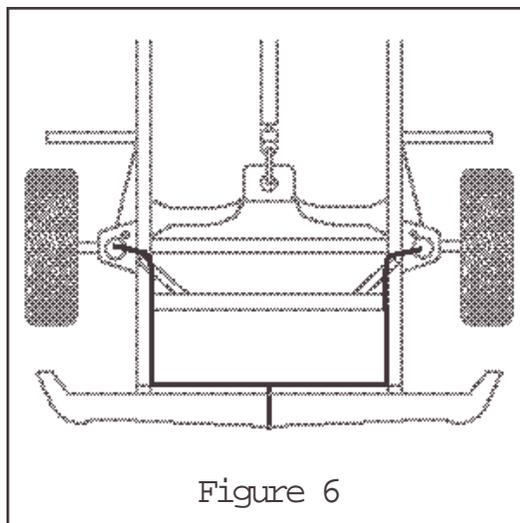

Figure 6
- H. Push the remaining air line over the last fitting on tee. Route along frame to desired inflation valve location, attach with plastic straps or wire (Figure 6).